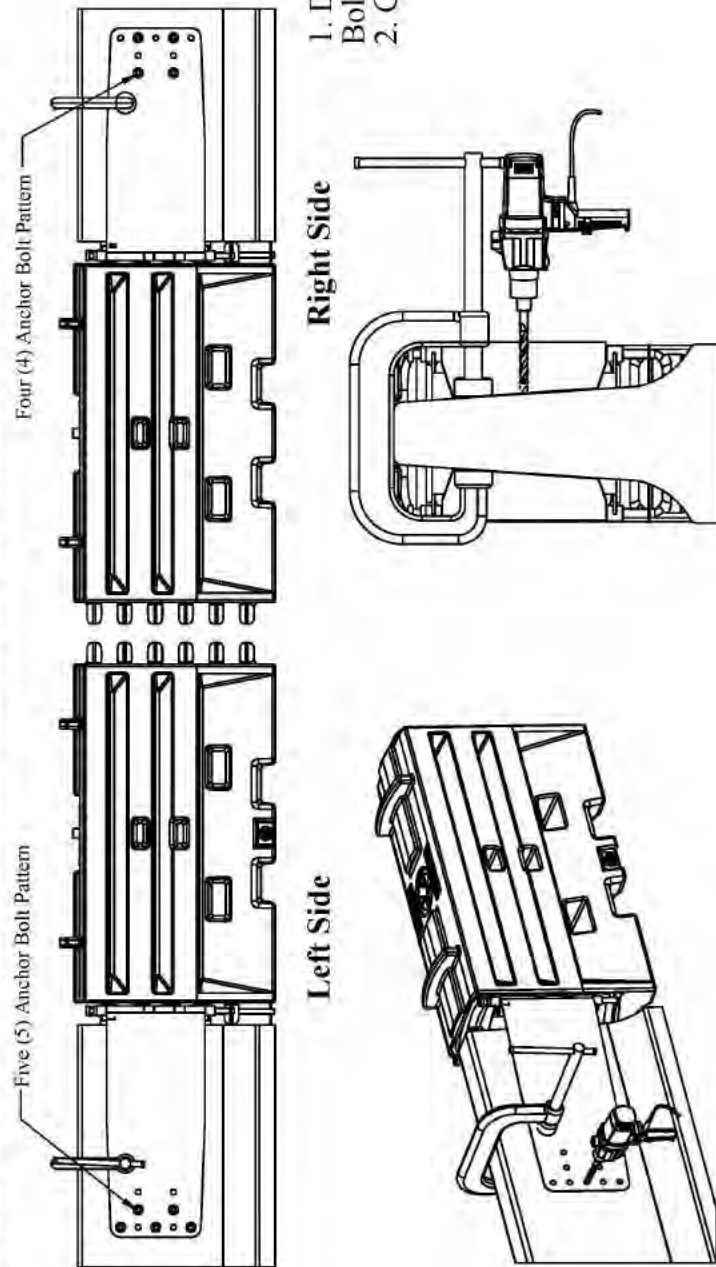

Fig. H3
Locate the anchoring holes that are to be drilled into the barrier wall. A minimum of eight (8) anchor bolts are required but nine (9) is recommended. To prevent bolts from colliding in the barrier wall, five (5) bolts are used on one side and four (4) on the other. Once the holes are located, use a rotary hammer drill with the appropriate drill bit (typically 3/4" diameter rebar cutting bit) to drill into the barrier wall the total length of the anchor bolt. Clean the hole of debris. (Fig. H3)